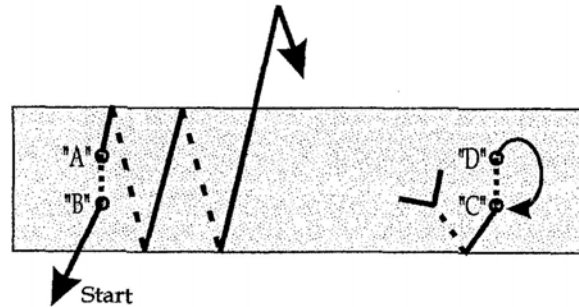

Figure 1
1. Thread an end of the magnet wire through hole "A" of the PVC tube (see Fig. 1) and then back through hole "B." Leave 4" of wire coming out of hole "B."
2. Neatly wind the magnet wire as shown in Fig. 1 so that there are no overlapping wires and each turn is touching the previous one. This is critical!
3. When you reach hole "C," insert the magnet wire, feed back through hole "D" and then through hole "C" again as shown in Fig. 1.